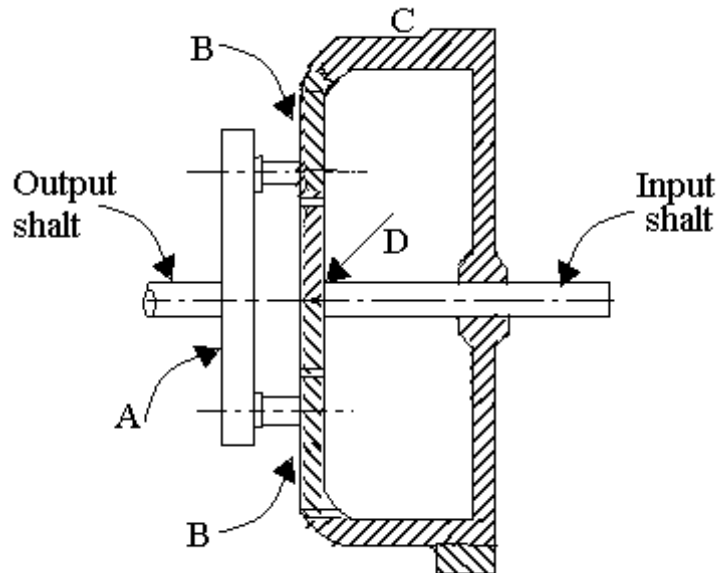

Figure 8
8. In the epicyclic reduction gear as shown in Figure 8 the sunwheel D has 20 teeth and is keyed to the input shaft. The wheels B also mesh with an internal gear C which is fixed. The input shaft rotates at 2100 r.p.m. Determine the speed of the output shaft and the torque required to fix C when the gears are transmitting 30 kW. [16]